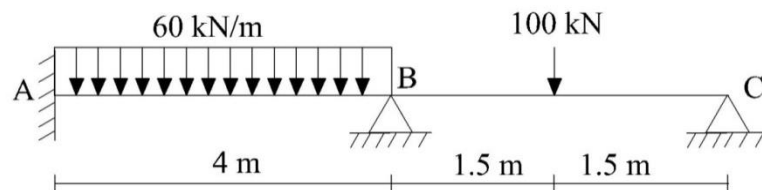

Fig 6
- 8 a) Explain Direct Stiffness Method in the matrix analysis (5)
b) Analyse the beam shown in figure 6 using Direct Stiffness Method shown in figure (15)